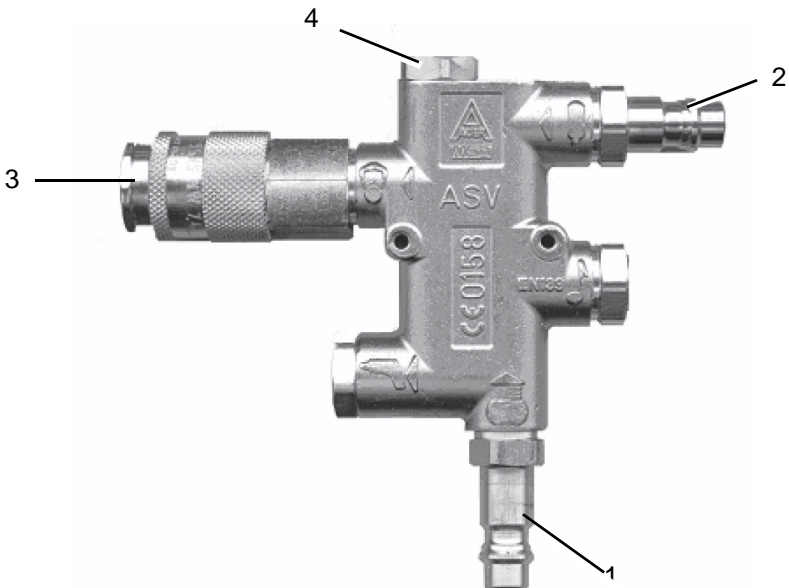
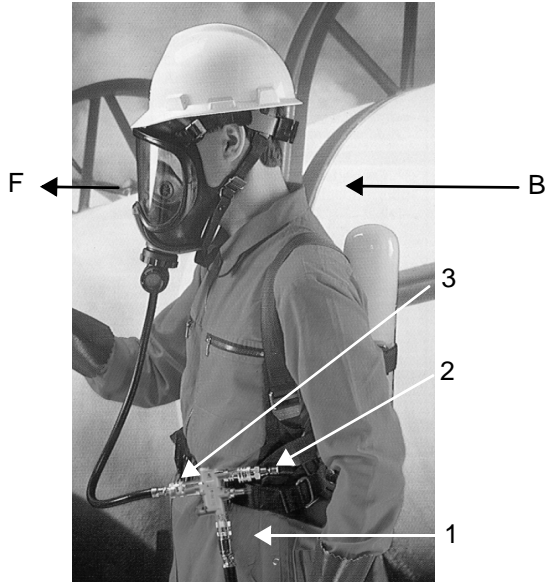

Fig. 1 Overview
Fig. 2 Donning
The device is fastened to a waist belt or to the harness of the SCBA (→ Fig. 2). The device can be worn at the right or left side of the body. When worn on the left side, the mounting support of the device must be adjusted so that the connection for the SCBA points backwards, the connection of the LGDV points forward, and the connection for the SCBA points straight down.
- (1) Connect safety coupling of the SCBA to the short plug nipple (→ Fig. 1).
- (2) Connect plug nipple of LGDV to the lock coupling (→ Fig. 1).
- (1) Remove chemical protective suit (see operating manual for chemical protective suit).
- (2) Disconnect the compressed air feeding line from the long plug nipple of the device from the pass thru on the inside of the protective suit (→ Fig. 2).
- (3) Disconnect the LGDV of the facepiece (see operating manual for LGDV)
- (4) Disconnect plug nipple of LGDV from lock coupling (→ Fig. 1).
- (5) Remove facepiece (see operating manual for full face mask).
- (6) Disconnect safety coupling of the SCBA from the short plug nipple (→ Fig. 1).
- (7) Remove SCBA (see operating manual for SCBA)
- (8) Remove the device.